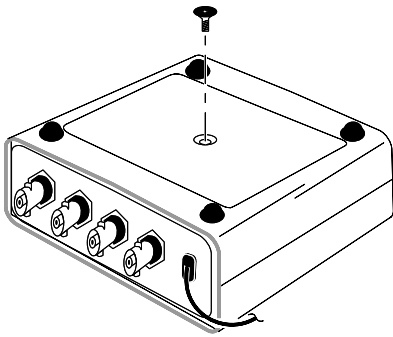

Figure 1
To open the RGB 118 or RGB 118 PLUS case, remove the screw from the bottom of the case (see Figure 1 on facing page). This enables removal of the top and bottom halves of the case as shown in Figure 2.
The SRI feature of the RGB 118 PLUS is used to determine the approximate horizontal and vertical scan frequencies of video and computer monitors. To use the SRI, hold the RGB 118 PLUS with the feet against the face of the monitor and near the center of the screen as shown in Figures 1 and 2 below.
To view the vertical scan frequency, hold the unit so the LCD readout is on a vertical plane (red SRI button is in the uppermost position) as shown in Figure 1. Wait until the green Vertical (V) LED turns on, then push and hold the red SRI button in until a readout is obtained.